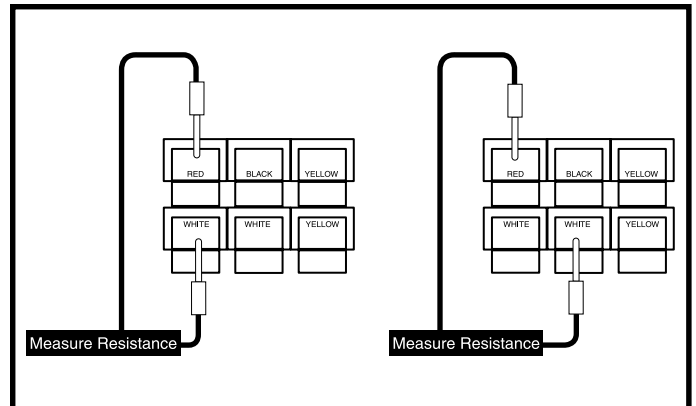

Figure 19. Connector 8a
6. Measure resistance from pin 1 (red) to pin 4 (white), then from pin 1 (red) to pin 5 (white) on connector 8a. **See figure 19.**
- *If your multimeter indicates an open for each test, then replace the power interface harness (2) and retest the system.*
- *If your multimeter indicates a short or a relatively low resistance (less than 1M ohm) for either test, then replace the right motor (8) and retest the system.*